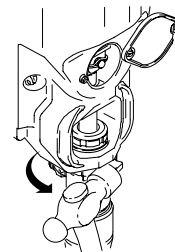

Fig. 13 9576A
6. Fig. 13. Screw jam nut (12) up onto pump until nut stops. Tighten jam nut by hand, then tap 1/8 to 1/4 turn with a 20 oz (maximum) hammer to approximately 75 +/- 5 ft-lb (102 N·m).